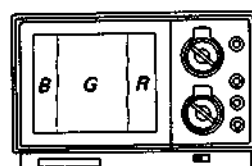
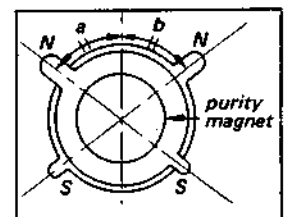

Fig. 3-5. Green band centering
Fig. 3-6. Purity magnet position
- (5) Adjust the purity magnet tabs to center the green band on the screen as shown in Fig. 3-5. Note that the purity magnet tabs should be placed equal amounts in opposite directions as shown in Fig. 3-6 (a = b).